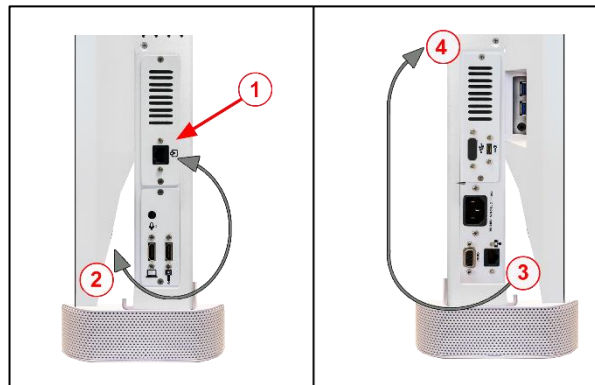

Figure 27. Cabling the Cisco Navigator
The RJ45 male connector (4) is then connected to the input connector on the rear of the Cisco Navigator, as shown in Figure. 27.